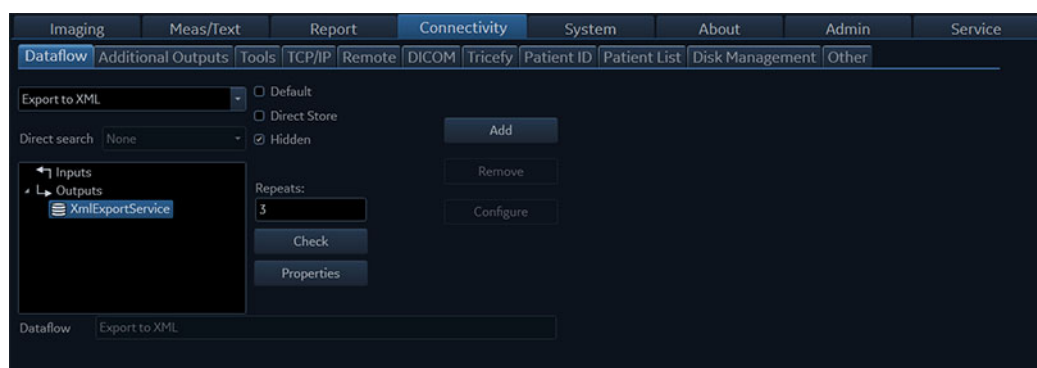

Figure 12-53. The Dataflow sheet (Export to XML)
2. Select the **Connectivity** category and **Dataflow** subgroup. The *Dataflow* sheet is displayed (Figure 12-53).